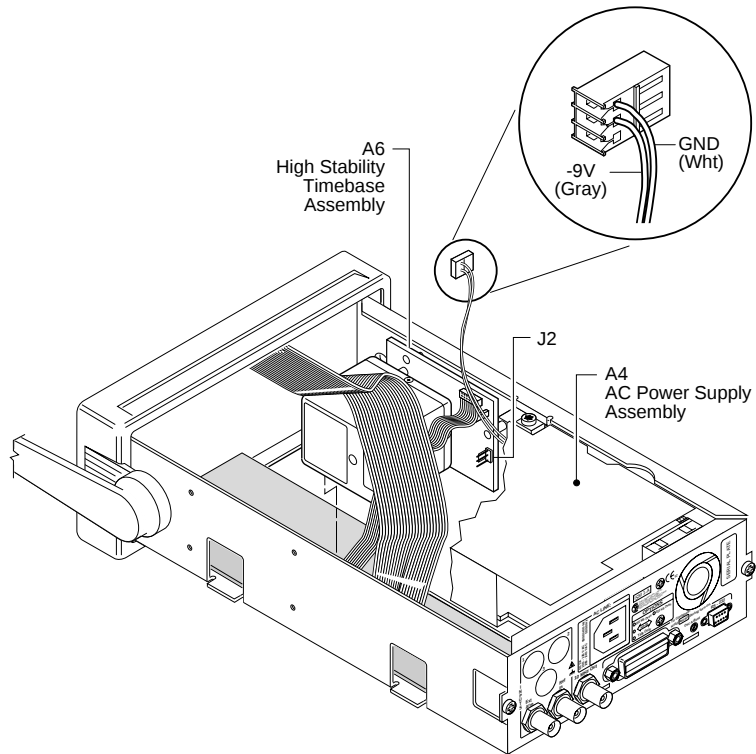

Figure 2-10. A4 AC Power Supply -9V Output Check (Option 010/012 Only)
- a. Disconnect the power supply's two-wire cable from J2 of A6 High Stability Timebase Assembly as shown in Figure 2-10.**
- b. Connect the negative lead of a voltmeter to the white wire connection (GND) on the connector of the two-wire cable, and connect the positive lead to the gray wire connection (–9V) as shown in Figure 2-10.**